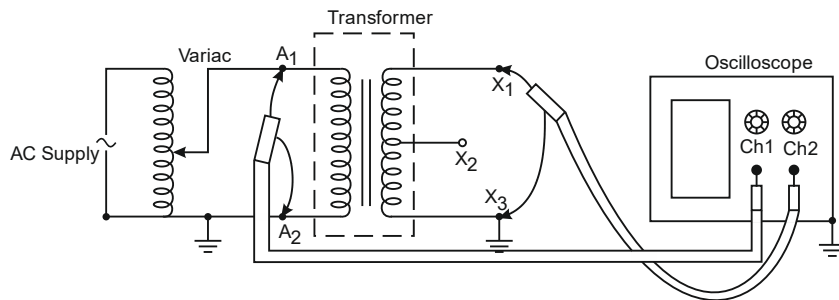

Fig. P3.2: Transformer testing at no load
5. If the transformer is to be tested at no-load, make the connections as shown in fig. P3.2 and proceed further.